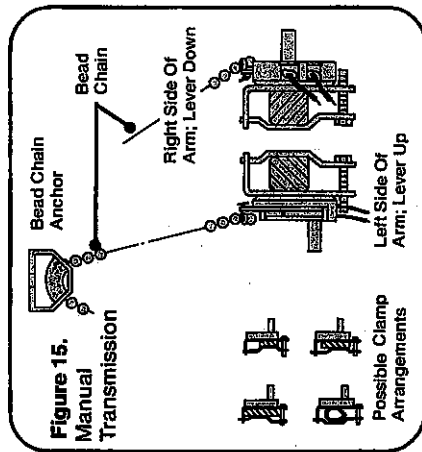

Figure 15. Manual Transmission
(a) **Automatic transmission** The disengagement switch is mounted on the brake pedal arm approximately 4" above the top of the pedal to prevent contact with the driver's foot. It can be mounted either on the right side of the pedal arm with the switch lever down, or on the left side of the arm with the switch lever up - depending on which side is most convenient (Fig. 13). Figure 15 shows various clamp positions which can be used to fit various arm thicknesses.
- The disengagement switch is best mounted on the brake pedal arm, or if necessary, on the clutch arm, using the clamp and No. 8-32 screw attached to the switch. It can be mounted on the right with the switch lever down, or on the left with the switch lever up. Also the clamp can be installed in several different directions to fit various arm thicknesses. (Fig. 15).